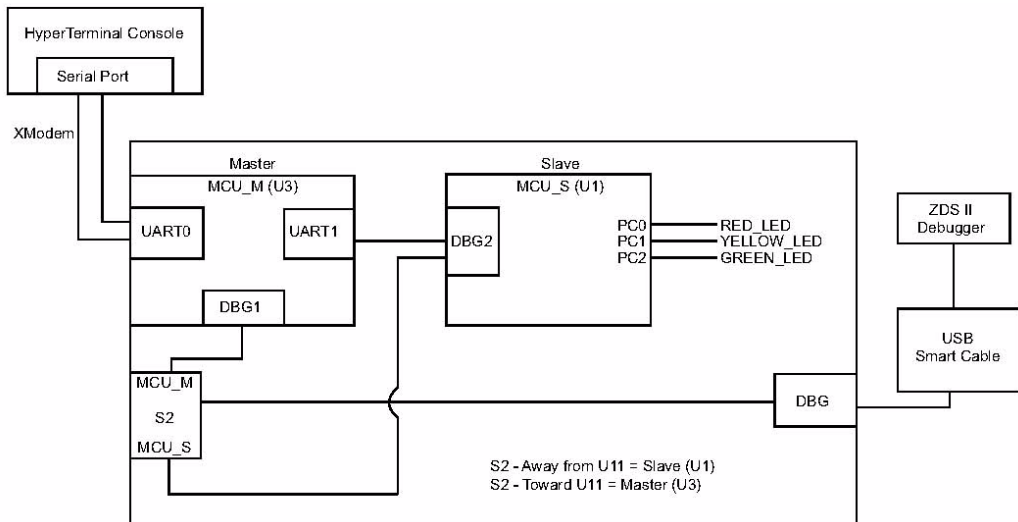

Figure 2. F1680 Development Board
1. On the Z8 Encore! XP Dual F1680 board, set the S2 switch toward U11 (Master). In this position, the board uses the Master MCU U3, as shown in Figure 2.